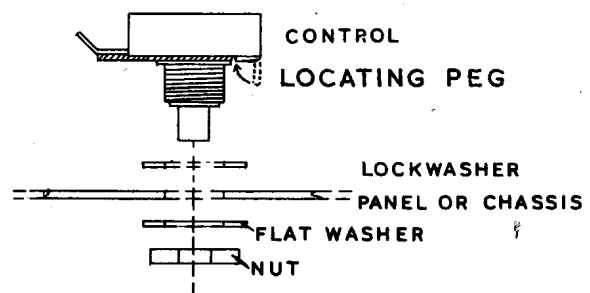

FIGURE 8.
- () Mount the 600Ω oscillator control, potentiometer OC. Bend the locating peg as shown. See Pictorial 1 and Figure 8.
- () Mount the $5\text{ K}\Omega$ output control, potentiometer VR, on the panel. Bend the locating peg as shown. See Pictorial 2 and Figure 8.
- () Connect a 50 K Ω precision resistor between tag 9 (S-1) (double tag) on the front section and through tag 9 (S-1) to tag 10 (NS) on the rear section.
- () Connect a 100 K Ω precision resistor between tag 10 (S-1) on the front section, through tag 10 (S-2) to tag 1 (NS) on the rear section.
- () Connect a 25 K Ω precision resistor between tag 1 (S-1) on the front section, through tag 1 (S-2) to tag 2 (NS) on the rear section.
- () Connect a 33.3 K Ω precision resistor between tag 2 (S-1) on the front section, through tag 2 (S-2) to tag 3 (NS) on the rear section.
- () Connect a 50 K Ω precision resistor between tag 4 (S-1) (double tag) on the rear section, through tag 4 (S-1) to tag 5 (NS) on the front section.
- () Connect a 100 K Ω precision resistor between tag 5 (S-1) on the rear section, through tag 5 (S-2) to tag 6 (NS) on the front section.
- () Connect a 25 K Ω precision resistor between tag 6 (S-1) on the rear section, through tag 6 (S-2) to tag 7 (NS) on the front section.
- () Connect a 33.3 K Ω precision resistor between tag 7 (S-1) on the rear section, through tag 7 (S-2) to tag 8 (NS) on the front section.
- () Install the switch through the chassis and panel in the 0-100 position. See Figure 8 for mounting details and Pictorial 3 for orientation.